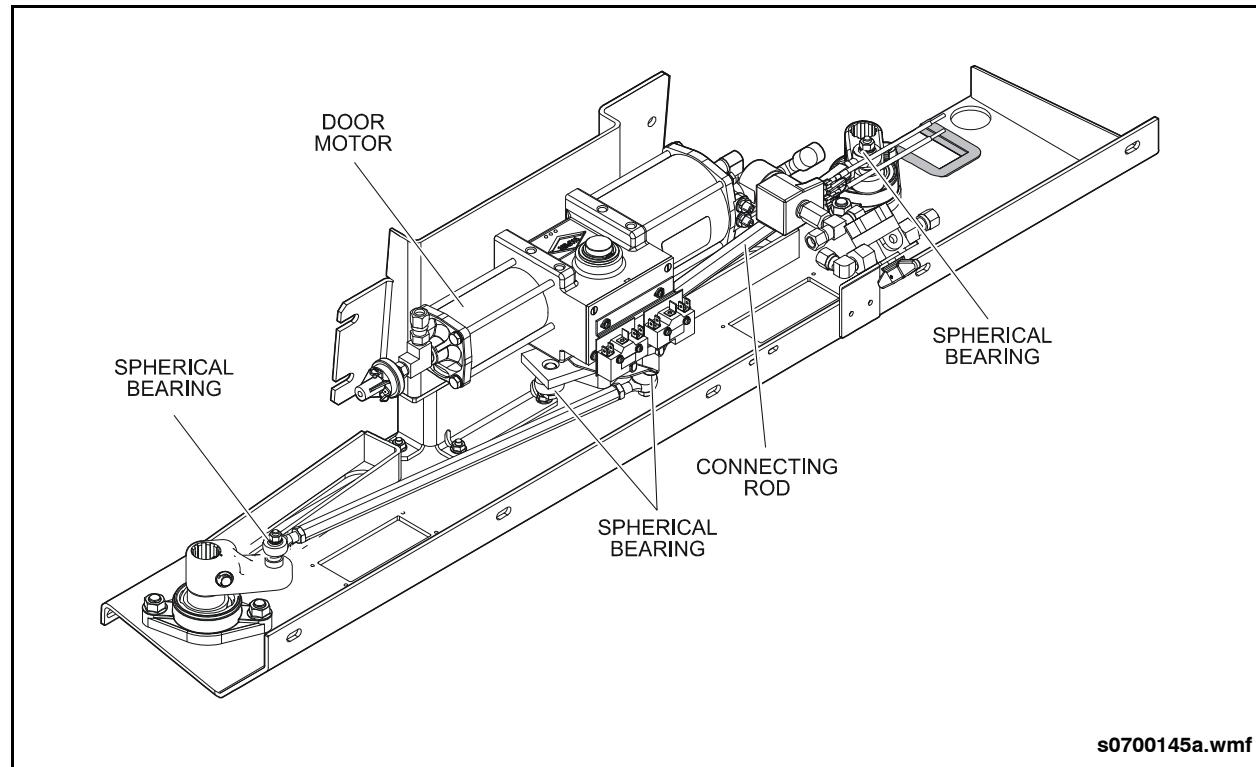
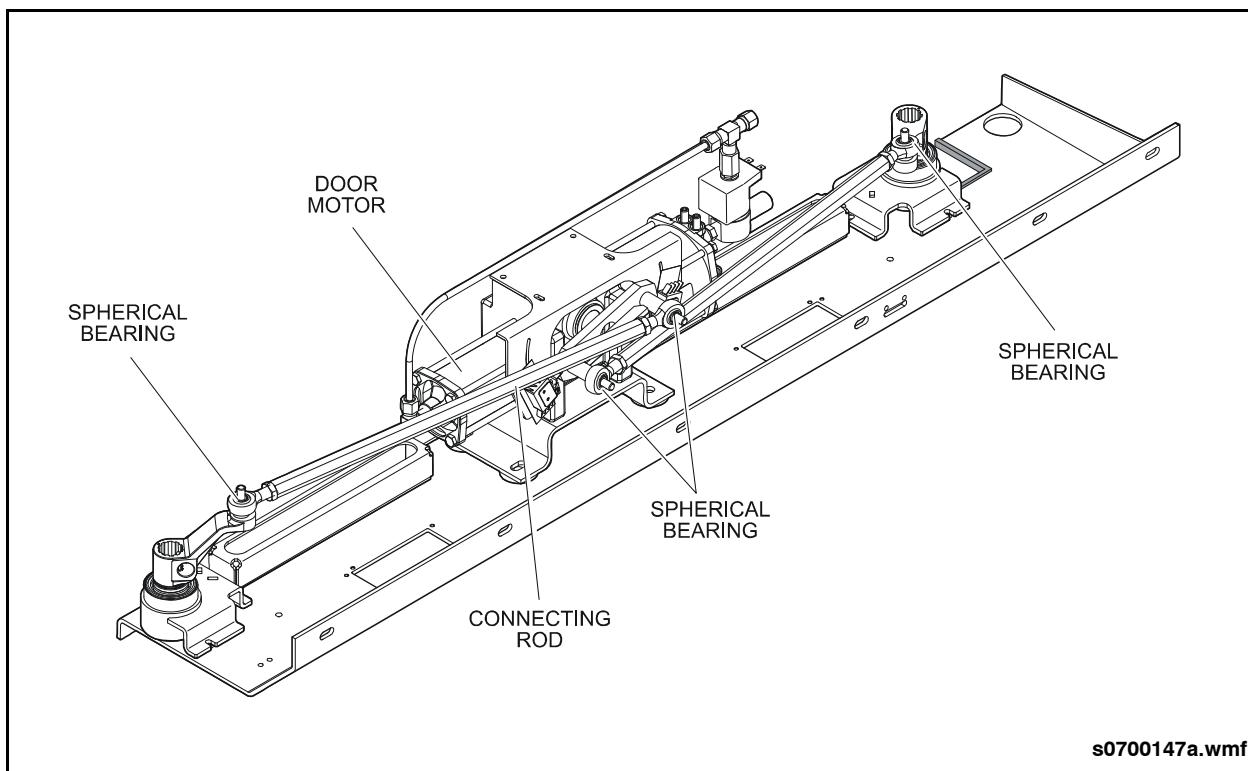

Fig. PM-49: Entrance Door Baseplate Lubrication
Fig. PM-50: Exit Door Baseplate Lubrication
- Lubricate rod ends with a few drops of SAE #20 oil. See “Fig. PM-49: Entrance Door Baseplate Lubrication” on page 104. See “Fig. PM-50: Exit Door Baseplate Lubrication” on page 105.